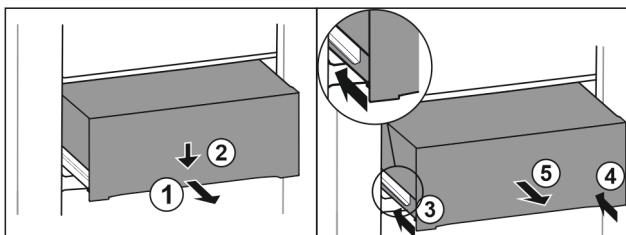

Fig. 135
- Pull out drawer half-way. Fig. 135 (1)
- Push the drawer down at the front. Fig. 135 (2)
- Push the left rail in by about 2 cm. Fig. 135 (3)
- Push the right rail in by about 2 cm. Fig. 135 (4)
- Remove drawer to the front. Fig. 135 (5)